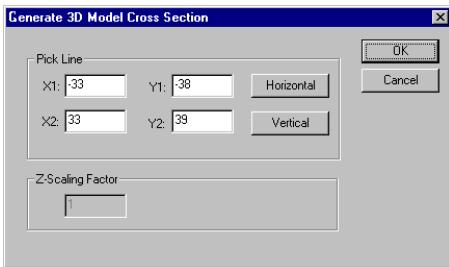

Figure 30: **Generate 3D Model Cross Section** dialog
- Click the **Cross-section** tool . The **Generate 3D Model Cross-Section** dialog will appear (Figure 30).